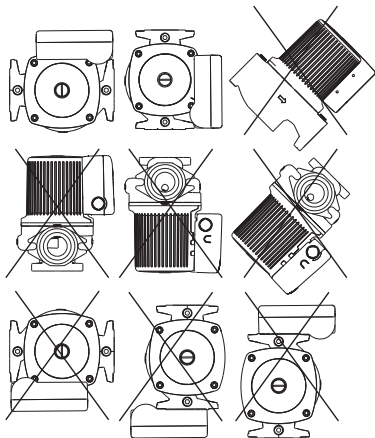
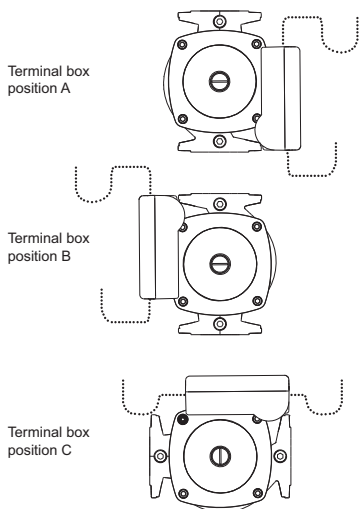

Fig. 1 Installation positions
Fig. 2 Acceptable terminal box positions
The arrows on the pump housing indicate the direction of water flow. The pump may be installed in vertical or horizontal piping, **but the motor shaft must always remain horizontal**, as shown in fig. 1.
There is not a drain hole directly below the terminal box; therefore the terminal box must be positioned in one of the positions shown in fig. 1 or fig. 2.
2. Carefully lift/slide the pump head out and away from the pump housing. Next rotate the pump head and locate the terminal box in the desired position. The terminal box can be rotated in steps of 90°. Review fig. 1 and fig. 2 for possible/permissible positions. **DO NOT** locate the terminal box beneath the pump.
10. Fig. 2 shows acceptable terminal box positions along with recommended drip loops (dashed lines) in the electrical wiring harness based on entry point.
- An external "Drip Loop" is recommended in the electrical wiring harness; see fig. 2.